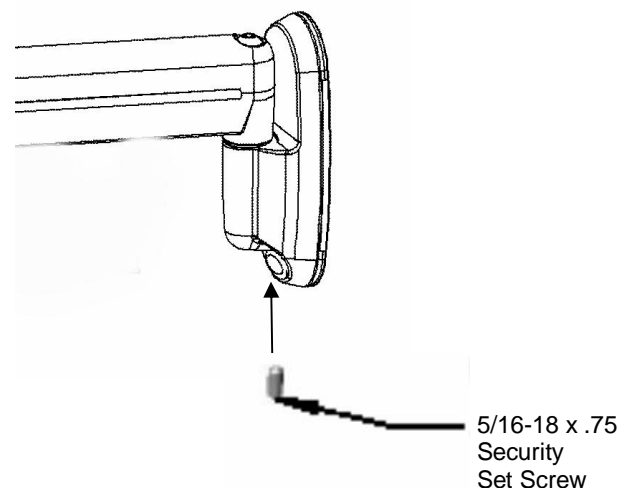

Figure 7. Install Security Set Screws (Option II)
3. Install the 5/16-18 x 3/4" security screw (50) in the wall plate (see Figure 7).